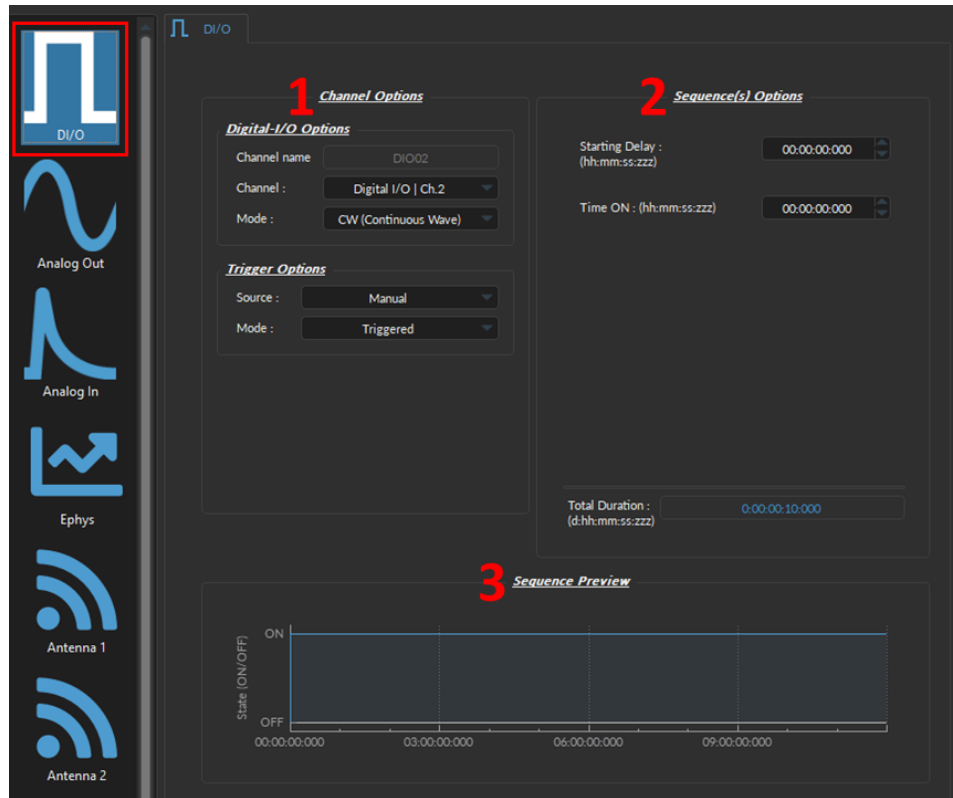

Figure 3.19: Channel(s) configuration window, Digital I/O - CW mode
- The **CW (Continuous Wave)** channel mode (Fig. 3.19) allows the creation of a continuous TTL pulse sequence. The following elements appear in the **Sequence Options** box.